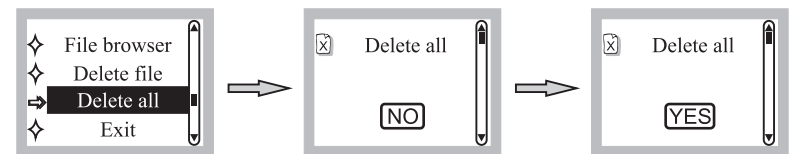

Fig. 25
- (3) Delete All: Press Parameter knob to enter the “Delete all” screen. Press right or left for “NO” or “YES”. Press to confirm, Fig. 25.
- (4) Note: This function will delete ALL files in the flash drive, so careful action is highly recommended.